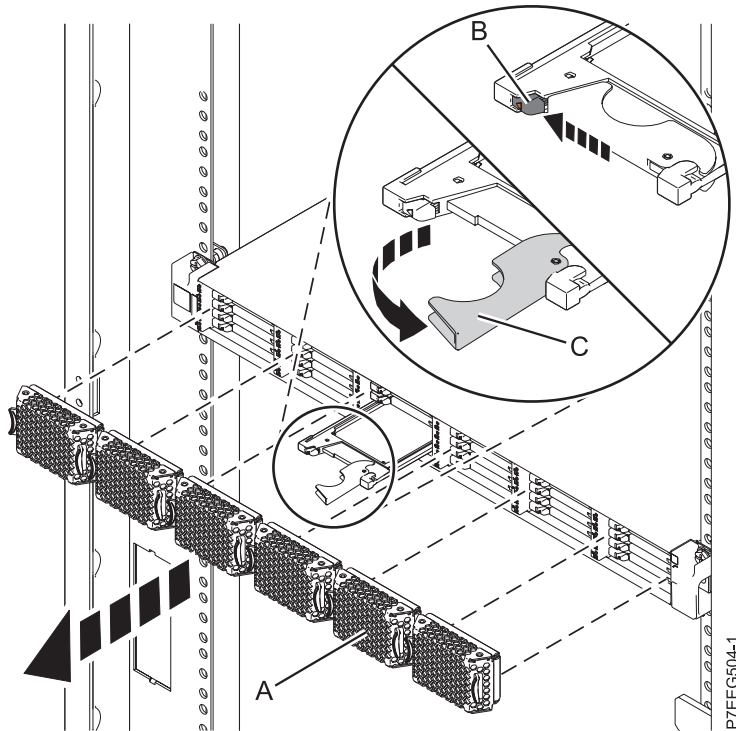

Figure 17. Removing the solid-state drive from the EDR1 PCIe storage enclosure
1. Pull off the bezel (A) that covers the slot that contains the solid-state drive. See Figure 17 on page 28.
2. Slide the release latch (B) over gently to unlock the drive handle.
3. Grasp the handle (C) and pull the drive partially out of the slot.